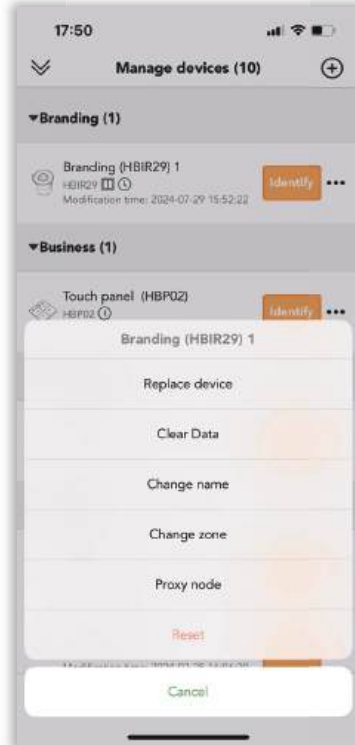

Figure 7.7 Reset-2
2. Click ... to reset, like “Branding (HBIR29)1” (see figure 7.7).